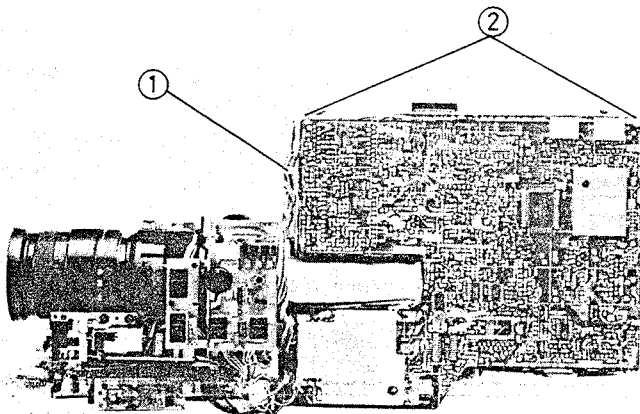
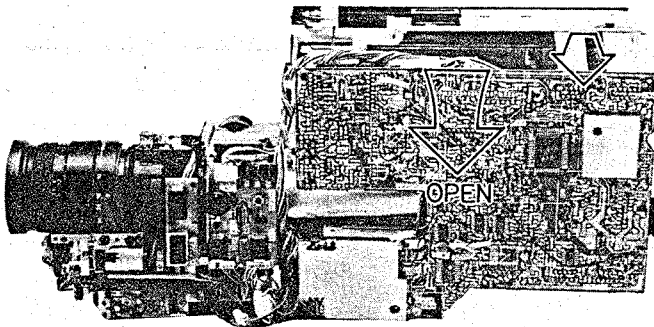

Fig. 2-11 Function Switch Circuit Board Removal
Fig. 2-12 Function Switch Circuit Board Removal
(Figs. 2-11, 2-12, 2-13)
1. Release seventeen (17) wires from the wire holder. (See Fig. 2-11)
2. Release two (2) tabs holding the main circuit board.
3. Pull out the function switch circuit board in the direction of the arrow. (See Fig. 2-12)
1. Remove the function switch circuit board. (See Figs. 2-11, 2-12, 2-13)
1. Open the main circuit board and function switch circuit board. (See Figs. 2-11, 2-12)